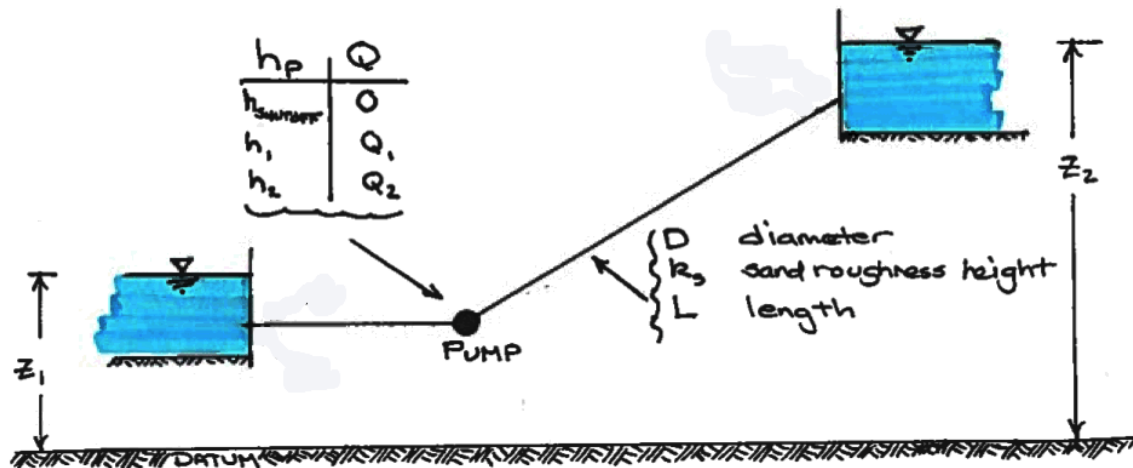

Figure 2: Pipeline and pump schematic
2. Water is to be pumped at a rate of 70 liters per second in a 1-kilometer meter long, 200 millimeter diameter pipeline between two reservoirs with an elevation difference of 26 meters. A schematic of the system is shown on Figure 2. The kinematic viscosity of water in the system is $\nu = 1 \times 10^{-6} \text{ m}^2/\text{s}$. The roughness height of the steel pipe is $\epsilon = 0.045 \text{ mm}$.